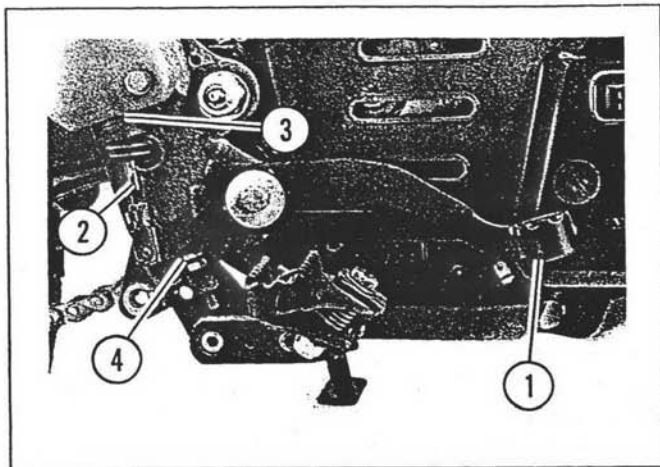

Figure 2-36. Rear Brake Pedal Free Play
See Figure 2-36. Depress brake pedal (1) only as far as necessary for push rod (2) to contact piston of master cylinder (3). Measure clearance between brake pedal (1) and adjusting screw (4). Clearance should be 0.8-2.4 mm (1/32 - 3/32 in.). If clearance is not within this specification, refer to Paragraph 5-10 and adjust.